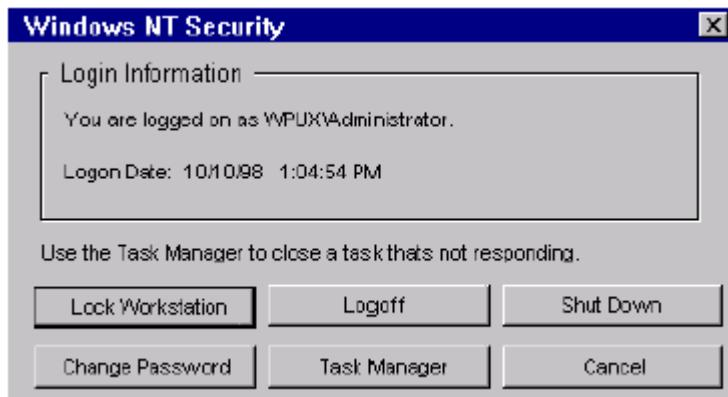

FIGURE 11. Windows NT Security
- 3.13 Press Ctrl+Alt+Delete to display the Windows NT Security dialog box as shown in FIGURE 11.